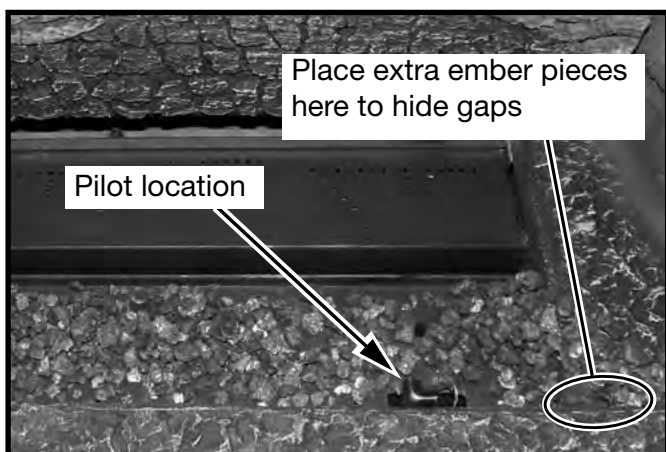
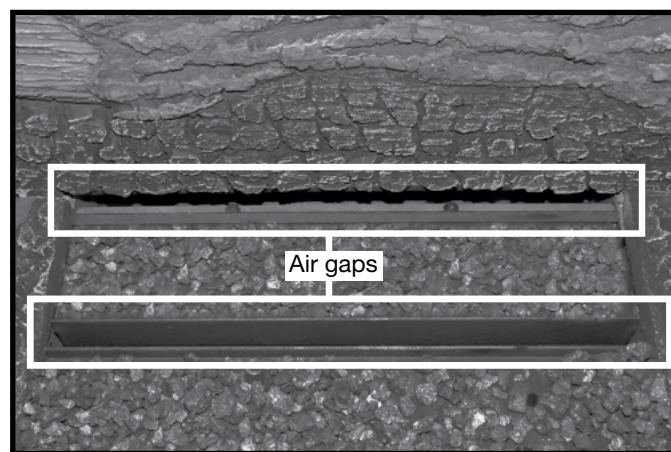

Figure 79: Front tray filled lightly with ember pieces and pilot location.
Figure 80: Air gaps.
9. Distribute a thin layer of ember pieces (Figure 62) onto the front and rear burner trays (Figure 78). Place extra ember pieces on the thin, but noticeable gaps between the front base piece and the two side base pieces (Figure 79). Keep the ember pieces from interfering with the pilot assembly. Keep the ember pieces from falling into the air gaps between the front and rear burners and the gap between the rear burner and the air deflector which supports the first log (Figure 80).